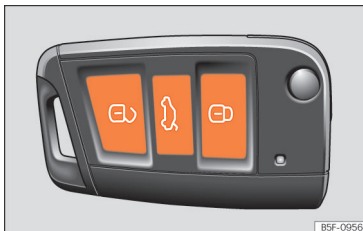

Fig. 69 Remote control key: keys.
- Lock: press the  **Fig. 69** button.